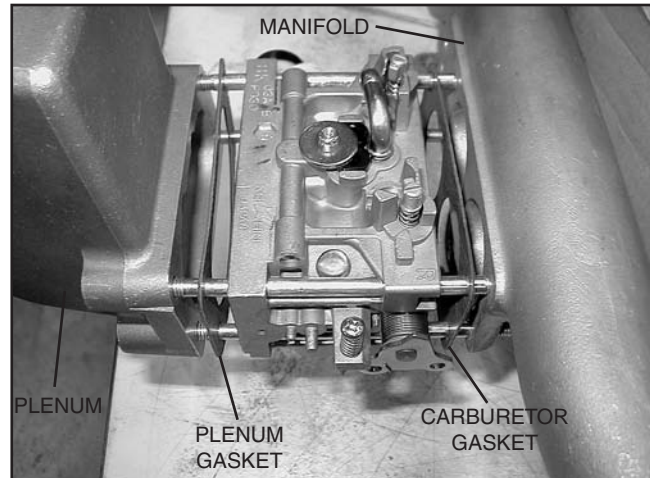

Figure 3-6.
6. Remove the four nuts holding the carburetor and plenum to the intake manifold (see Figure 3-6).